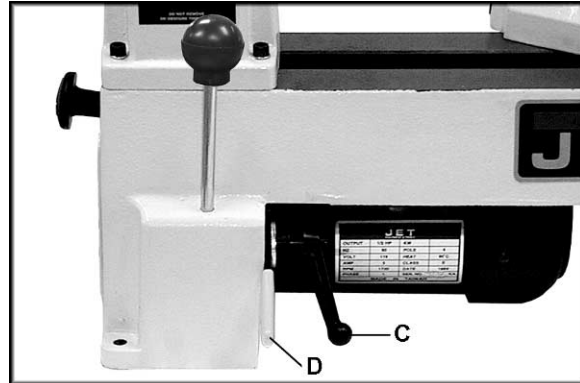

Figure 11
3. Loosen the motor plate lock handle (C, Figure 11). Lift up the motor plate handle (D, Figure 11) to take tension off the belt.
5. Tension the belt by pushing down on the motor plate handle (D, Figure 11) and re-tighten lock handle (C, Figure 11)
12. Tension the belt and tighten the motor plate lock handle (C, Figure 11).